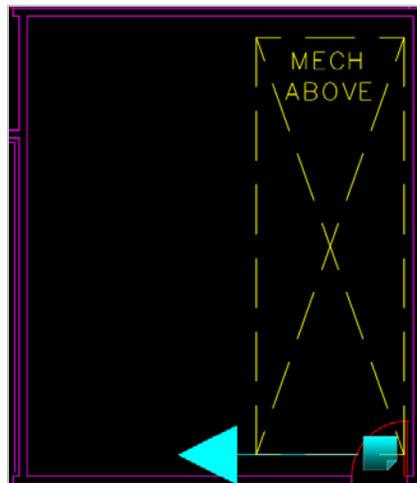

Figure 20.2 Door Clearance Changemark
In this exercise, you will continue to practice creating markups on the plan layout1.dwg file. In this example, a door has been improperly placed and needs to be relocated. You will be adding a changemark arrow, with the result looking like Figure 20.2
- 3) Click **Annotate** and then the combination **Changemark Arrow** feature from the Markup toolbar to apply a markup as seen in Figure 20.2.